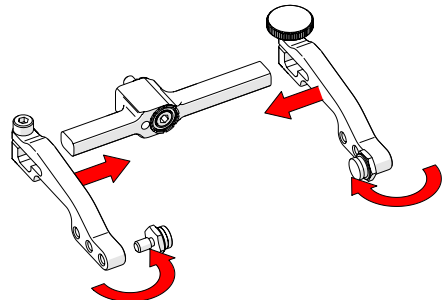

Fig. 60 - Attach arms & move buttons
5. Place the pivot buttons on the inside of the probe holder arms (Fig. 60) using a 3/8 in wrench (Fig. 16).